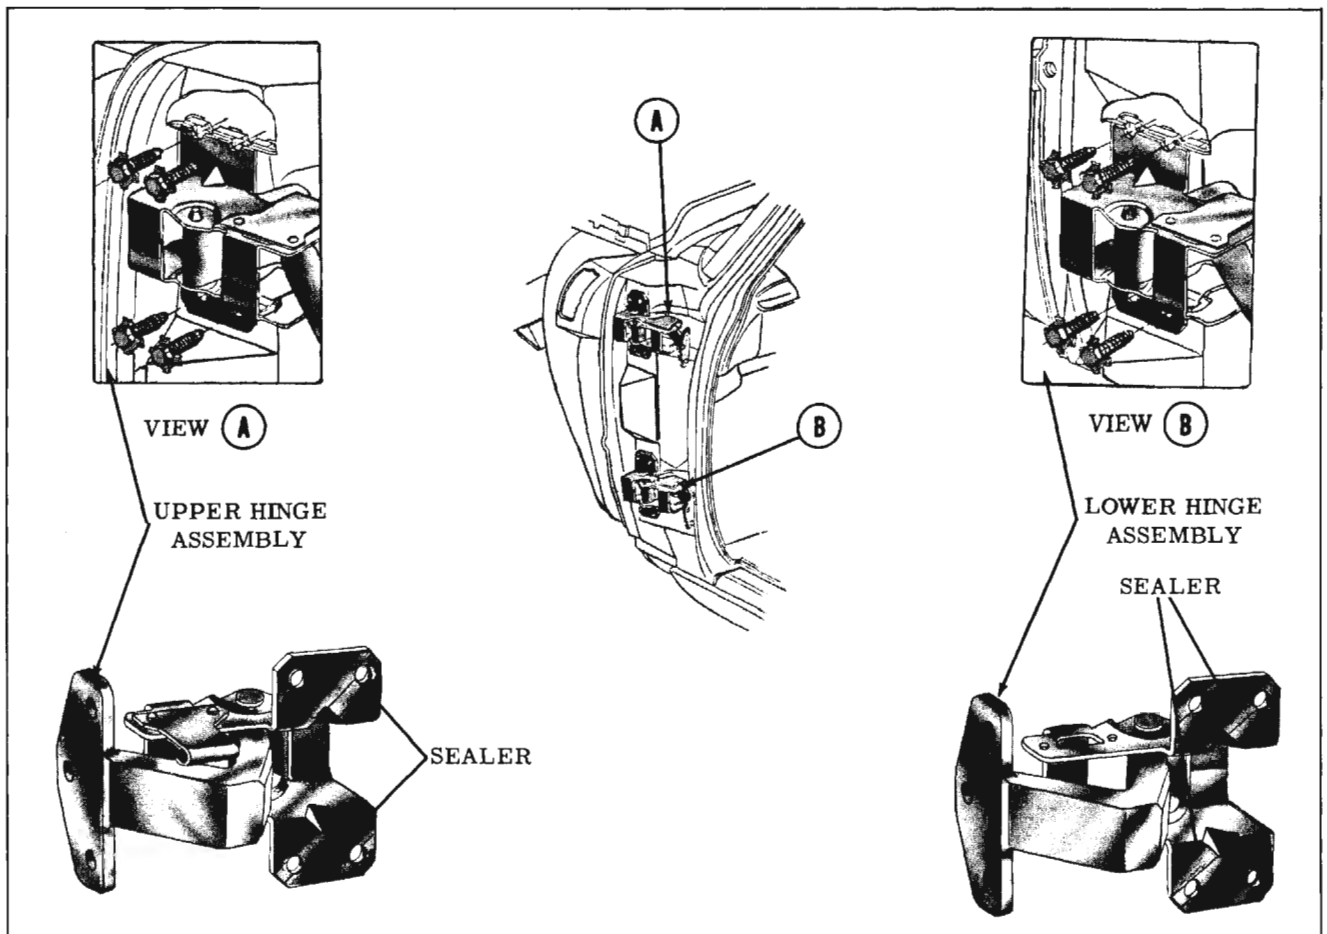
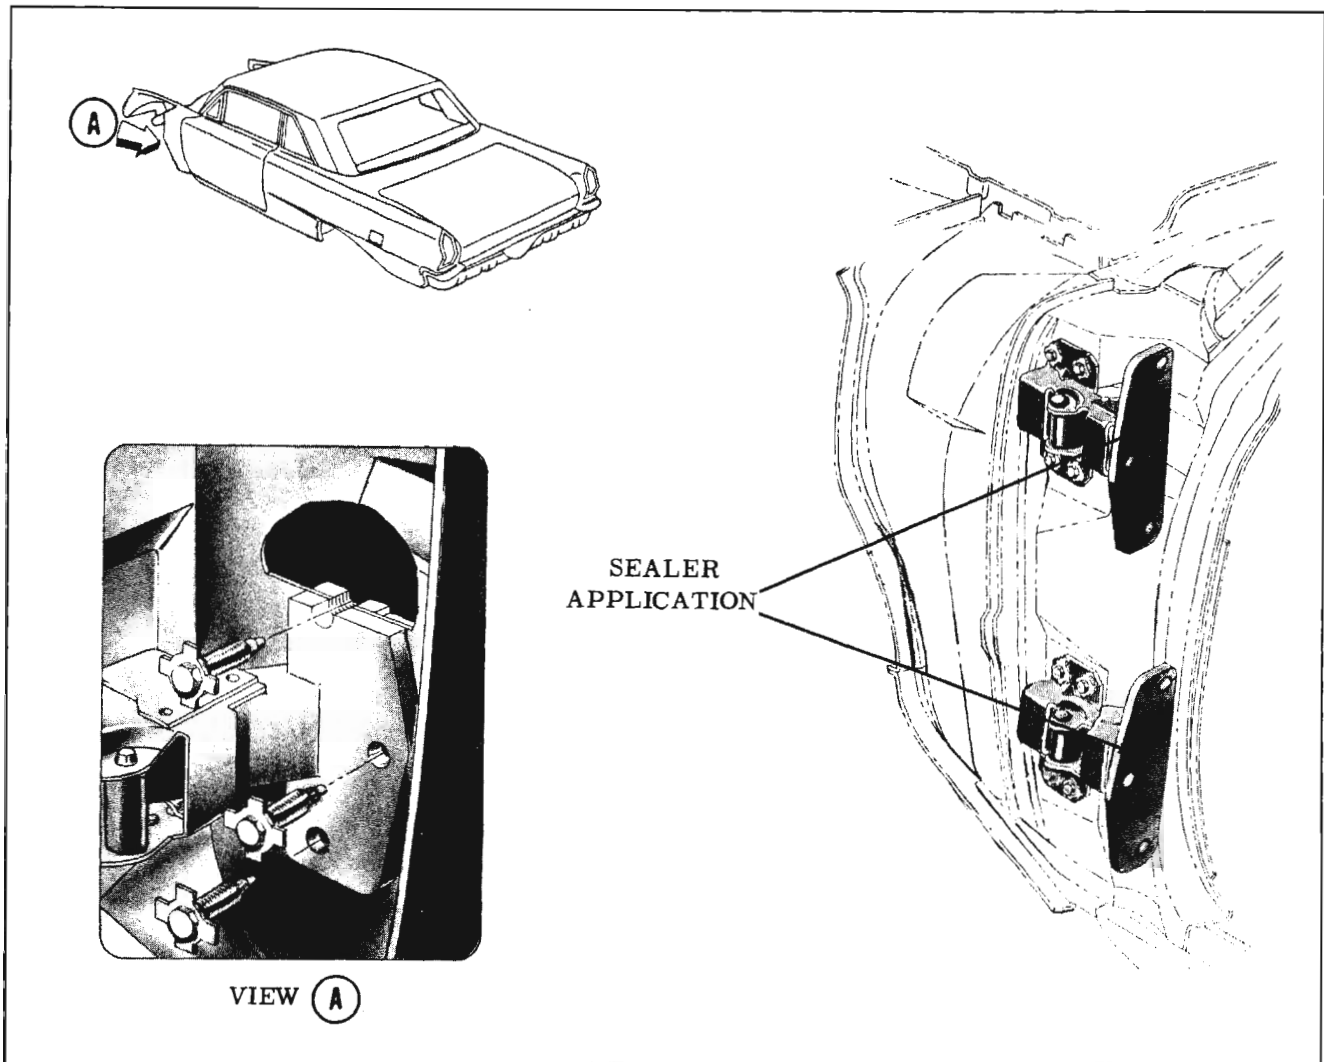

Fig. 16-243 Front Door Hinge Assembly
Fig. 16-244 Front Door Hinge Installation
1. As an anti-squeak precaution and to prevent entry of water into body at hinge attaching bolt locations, coat attaching surfaces of hinges with heavy-bodied sealer prior to installing door. Fig. 16-243 shows sealer application and detailed views of hinge to body attaching bolts. Fig. 16-244 shows sealer application and view of hinge to door attaching bolts.